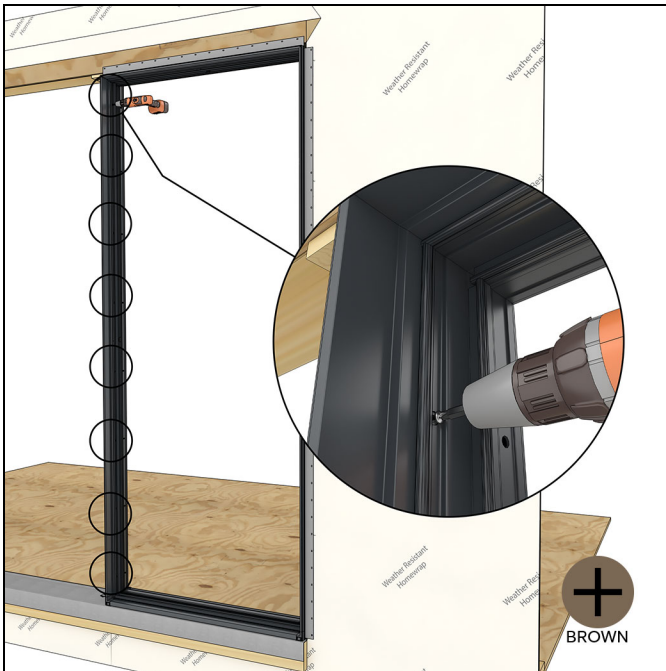

Figure 24
10. Fasten the steel to the frame with #8 x 1/2" trilobular screws through the installation holes. See Figure 24